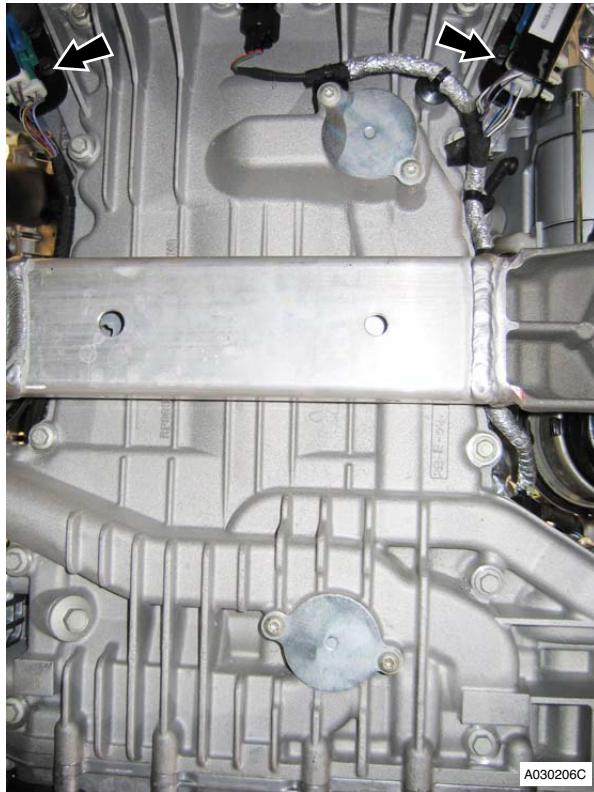

Figure 5
- Remove bolts (x4) that attach the LH and RH HEGO sensor multiplug brackets to sump (refer to Figure 5).